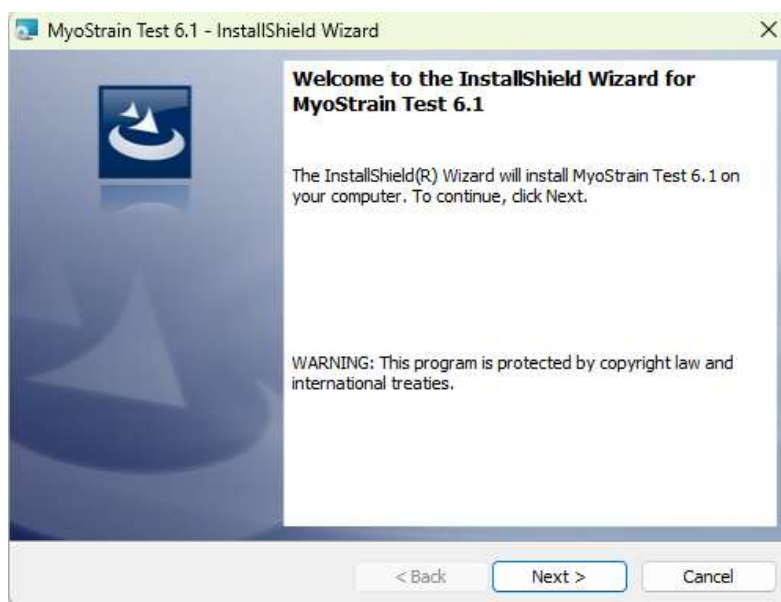

Figure 2-1: Installation Window
1. Launch the MyoStrain installer. Click the **Next** button when the installation screen shown in Figure 2-1 appears.